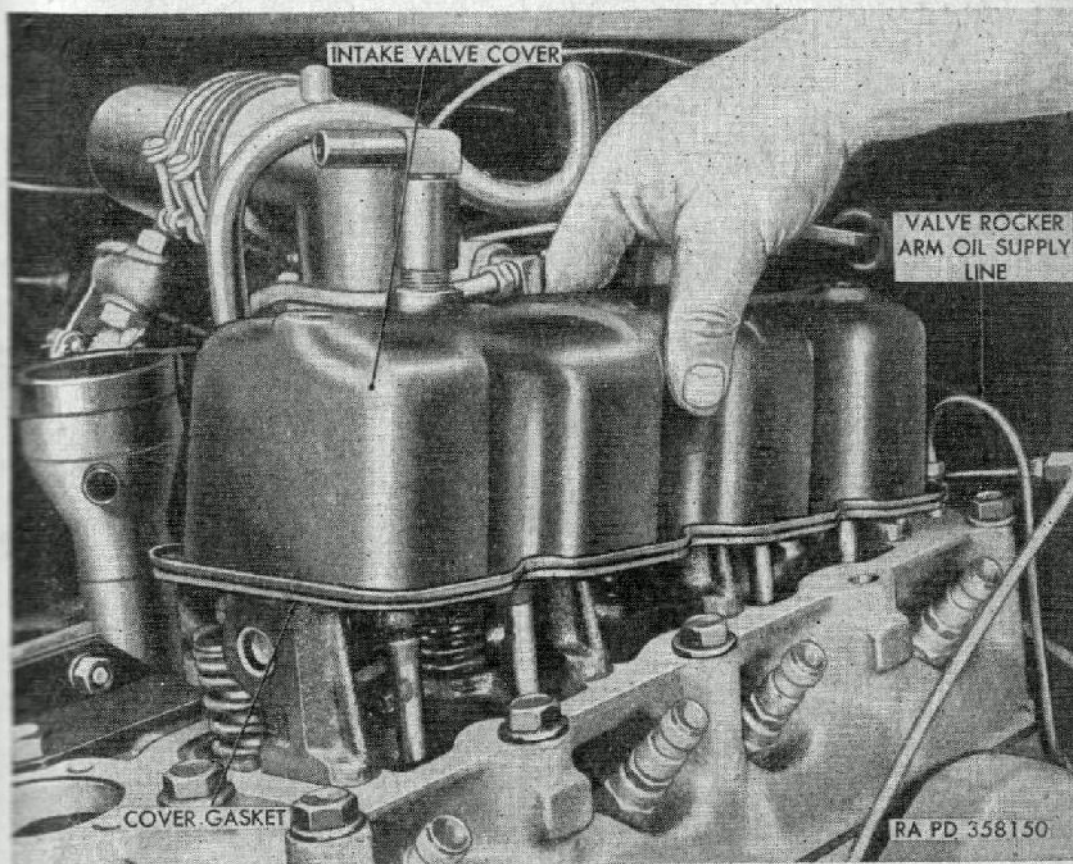
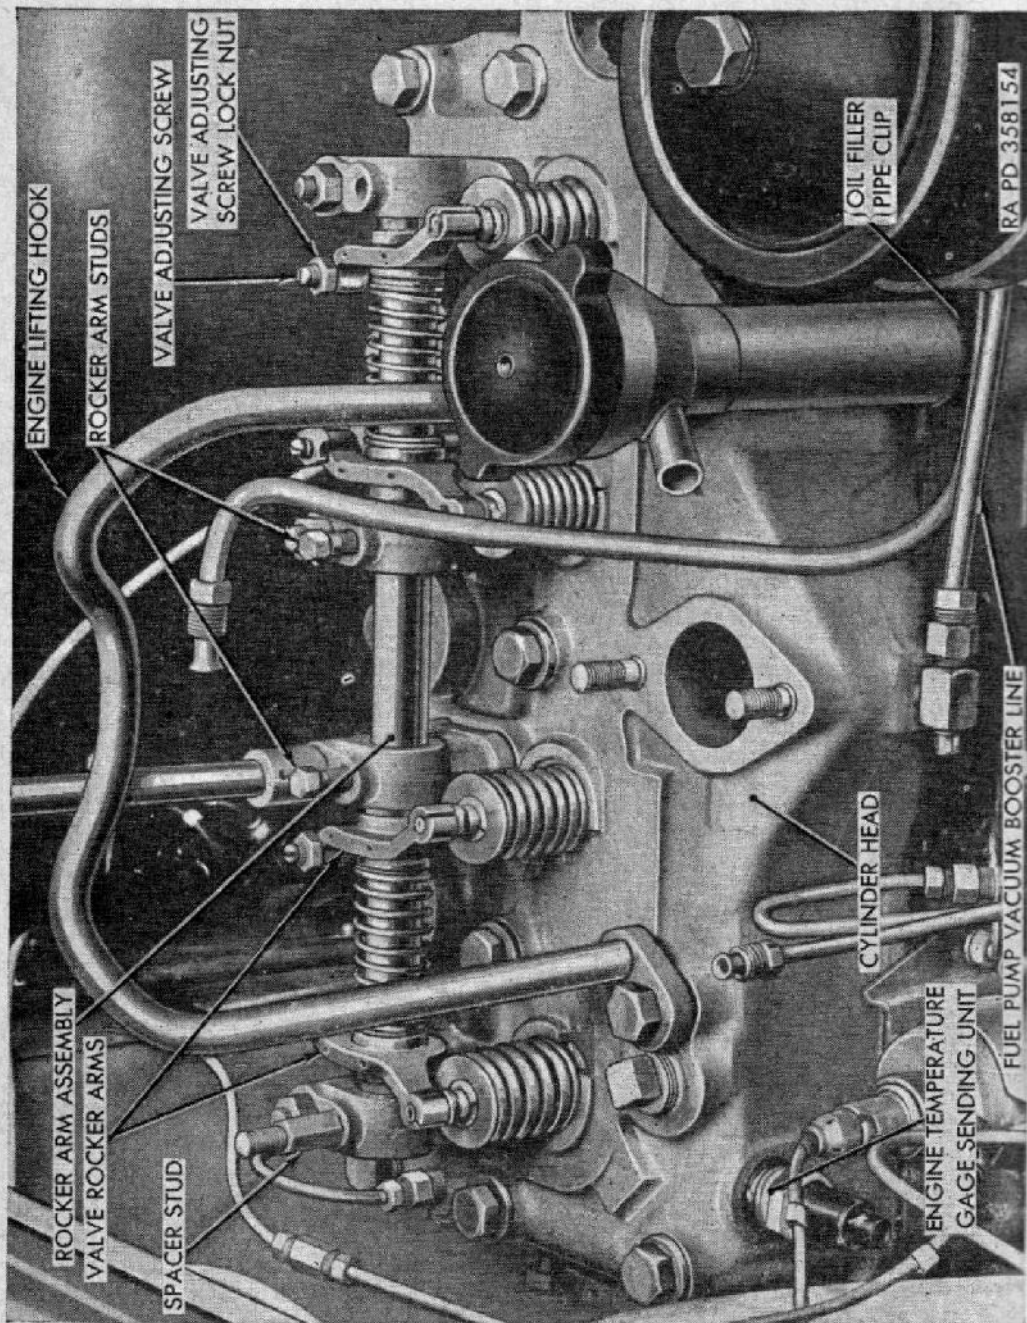
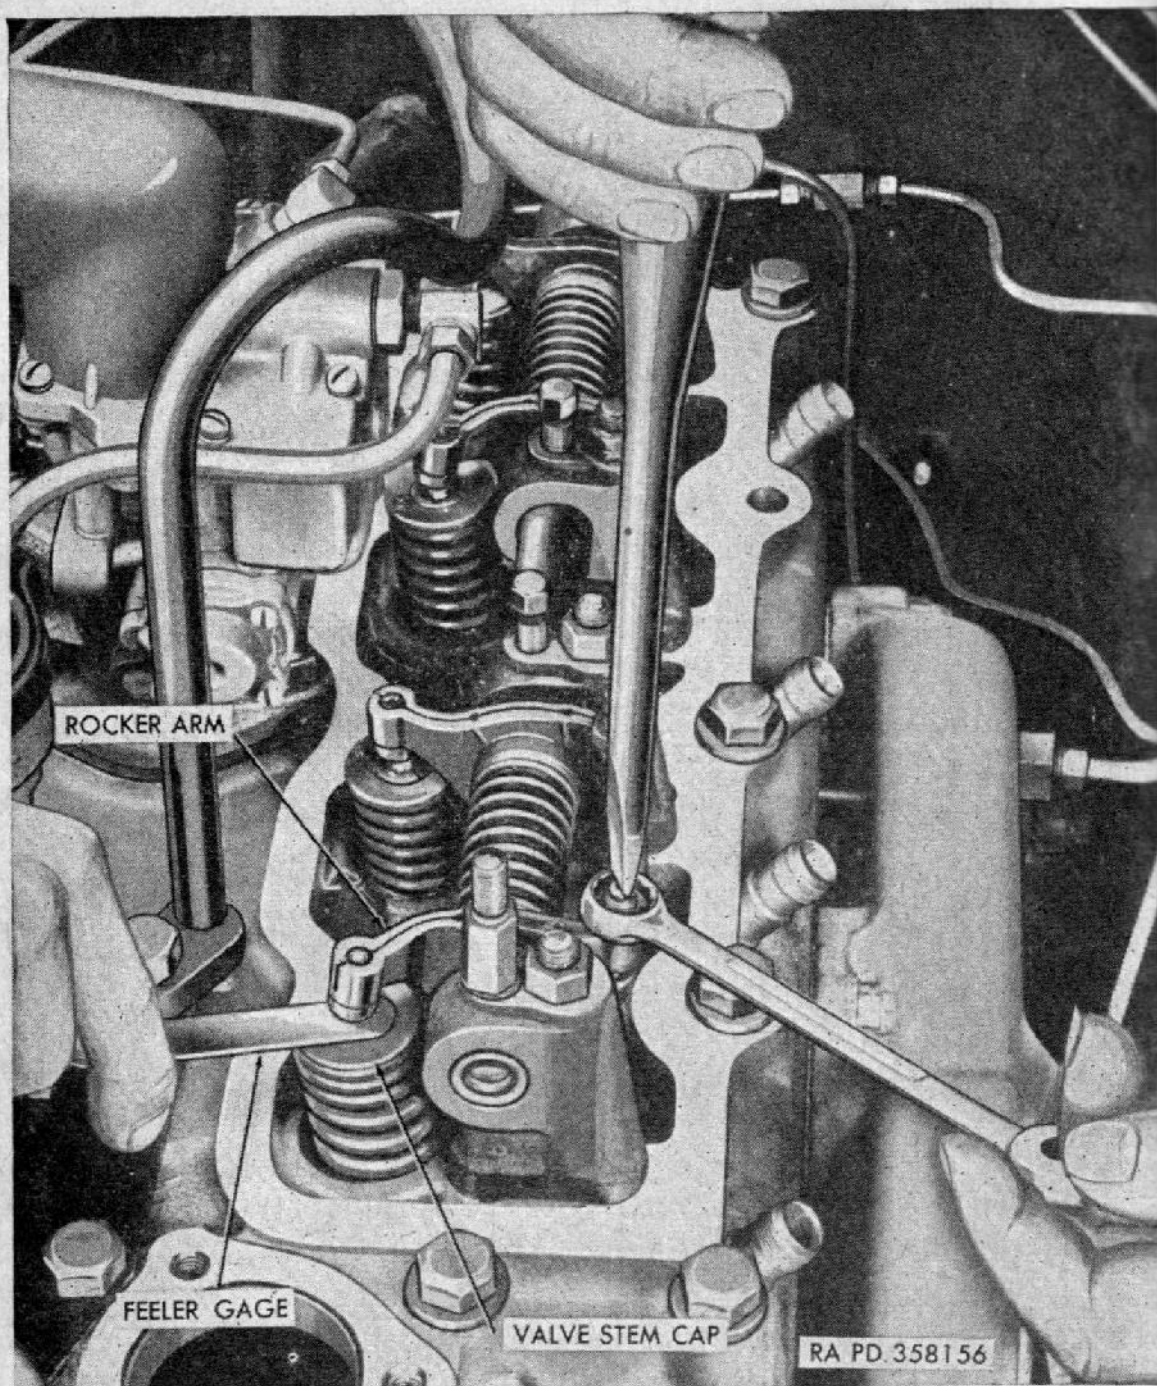

Figure 26. Removing intake valve cover.
Figure 27. Cylinder head and valve rocker arms with intake valve cover removed.
Figure 29. Method of adjusting intake valve clearance.
- (4) *Disconnect sending unit and oil line.* Disconnect the valve rocker arm oil supply line (fig. 26) from rear of cylinder block and swing oil supply line to one side. Disconnect cable at connector from engine temperature gage sending unit (fig. 27).
- (5) *Remove intake valve cover.* Remove cover nuts (fig. 25) securing intake valve cover (fig. 25) to cylinder head. Lift spark plug cable clips (fig. 25), flat washers and seals off spacer studs, and remove intake valve cover (fig. 26) by lifting it up and off spacer studs (fig. 27). Remove cover gasket (fig. 26) and discard.
- (6) *Remove carburetor.* Remove carburetor as outlined in paragraph 102.
- (7) *Remove rocker arm assembly.* Remove spacer studs (fig. 27) from each end of rocker arm assembly. Remove four nuts securing rocker arm assembly to rocker arm studs (fig. 27). Grasp rocker arm assembly securely at each end to prevent it from springing apart and lift rocker arm assembly off rocker arm studs. Remove four intake valve push rods from cylinder head.
- (8) *Remove cylinder head* (fig. 27). Disconnect fuel pump vacuum booster line from fitting on right side of cylinder head. Remove cap screw and flat washer securing oil filter pipe clip and oil filter bracket to right side of cylinder head. Remove the two cylinder head cap screws and flat washers securing the front part of the engine lifting hook and oil filter bracket and lay oil filter bracket with engine oil filter attached to one side. Remove the remaining 13 cylinder head cap screws and flat washers and the engine lifting hook.
- (1) *Clean cylinder head and cylinder block.* Clean gasket deposits and carbon deposits from both cylinder head and cylinder block.
- (2) *Install cylinder head gasket and cylinder head.* Position a new cylinder head gasket on the cylinder head being careful to place it correctly over the valves and holes in the cylinder block. Carefully lower the cylinder head onto the cylinder head gasket and cylinder block. Insert one cylinder head cap screw at each end of the cylinder head to properly aline cylinder head with cylinder head gasket and cylinder block.
- (3) *Install cylinder head cap screws.* Install oil filter bracket on cylinder block in alinement with first two holes on right side and install and tighten the front cylinder head cap screw and flat washer. Place the engine lifting hook (fig. 27) over the rear hole in the oil filter bracket and install and tighten cylinder head cap screw with flat washer. Install cylinder head cap screw and flat washer securing the rear part of engine lifting hook and tighten.
*Note.*—The loop of the engine lifting hook (fig. 27) must be pointing in toward the center of the cylinder head.
- (4) *Install oil pipe clip and oil lines.* Connect valve rocker arm oil supply line (fig. 26) to fitting at the rear of cylinder head. Connect fuel pump vacuum booster line (fig. 27) to fitting on right side of cylinder head. Install cap screw and lock washer securing oil filler pipe clip (fig. 27) and oil filter bracket to cylinder head.
- (5) *Install carburetor.* Install carburetor as outlined in paragraph 102.
- (6) *Install rocker arm assembly.* Install four intake valve push rods in cylinder head. Install rocker arm assembly over rocker arm studs and seat rocker arm assembly on cylinder head.
Install four nuts securing rocker arm assembly to rocker arm studs and tighten securely. Install spacer studs (fig. 27) at each end of rocker arm assembly. Adjust intake valves (par. 92a).
- (8) *Connect sending unit.* Connect cable to engine temperature gage sending unit (fig. 27).
- (1) *Remove intake valve cover.* Perform operations in paragraph 91a (2), (3), and (5) to remove intake valve cover. Install spark plug cables on spark plugs.
- (2) *Check and adjust intake valve clearance* (fig. 29). Start engine and allow to run until minimum operating temperature (160° F.) is reached. With engine running at idling speed, insert feeler gage between valve stem cap and rocker arm (fig. 29) to check valve clearance. Using a wrench and screw driver, loosen valve adjusting screw lock nut (fig. 27) and tighten or loosen valve adjusting screw (fig. 27) until proper clearance is measured with the feeler gage. When adjustment is correct, tighten valve adjusting screw lock nut. Repeat this procedure for each intake valve. Set all intake valves to 0.018 inch with slight drag on feeler gage. When all valves are adjusted, check clearance again to make certain tightening of valve adjusting screw lock nut did not disturb adjustment.
*b. Equipment.* In addition to mechanic's common hand tools, one special tool is needed to accomplish power plant removal. Spanner wrench 41-W-3249-900 (fig. 12) is required to uncouple various connections in the electrical system. An engine lifting hook (fig. 27), attached to the cylinder head, provides the means of lifting the power plant from the vehicle. This engine lifting hook is carefully positioned to balance the engine for removal or installation.